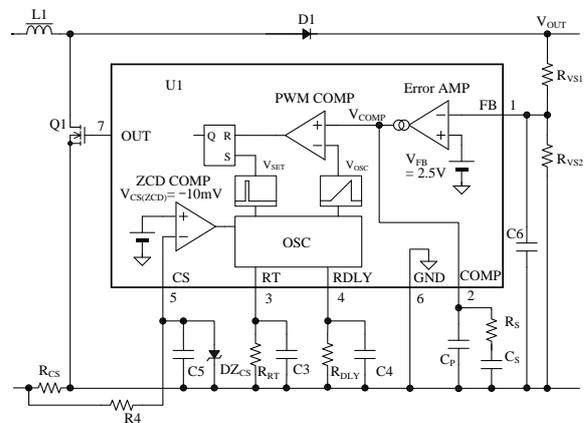

Figure 9-2 The IC peripheral circuit.
Figure 9-2 shows the IC peripheral circuit.
R_{DLY} shown in Figure 9-2 is for the adjustment of the turn-on delay time, t_{DLY} , of the Power MOSFET. As shown in Section 8.5 Zero Current Detection, adjust the value of R_{DLY} and turn-on timing to the bottom point of V_{DS} free oscillation waveform on actual operation in the application. The range of R_{DLY} is 15 k Ω to 56 k Ω .
R_{CS} shown in Figure 9-2 is current sensing resistor. A high frequency switching current flows to R_{CS} , and may cause poor operation if a high inductance resistor is used. R_{CS} is calculated by the following Equation (7), where Overcurrent Protection Threshold Voltage $V_{CS(OC)}$ is - 0.60 V and I_{LP} is calculated by Equation (4).